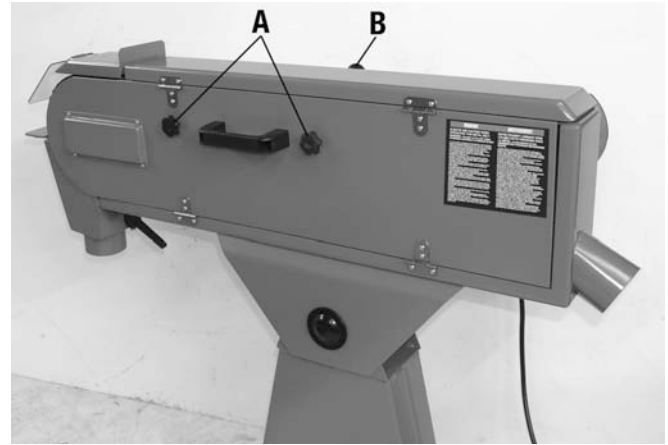

FIGURE 9
On the side of the motor is the On/Off switch (Fig.9). The ON button (A) Fig.9 turns the metal belt sander motor "ON".